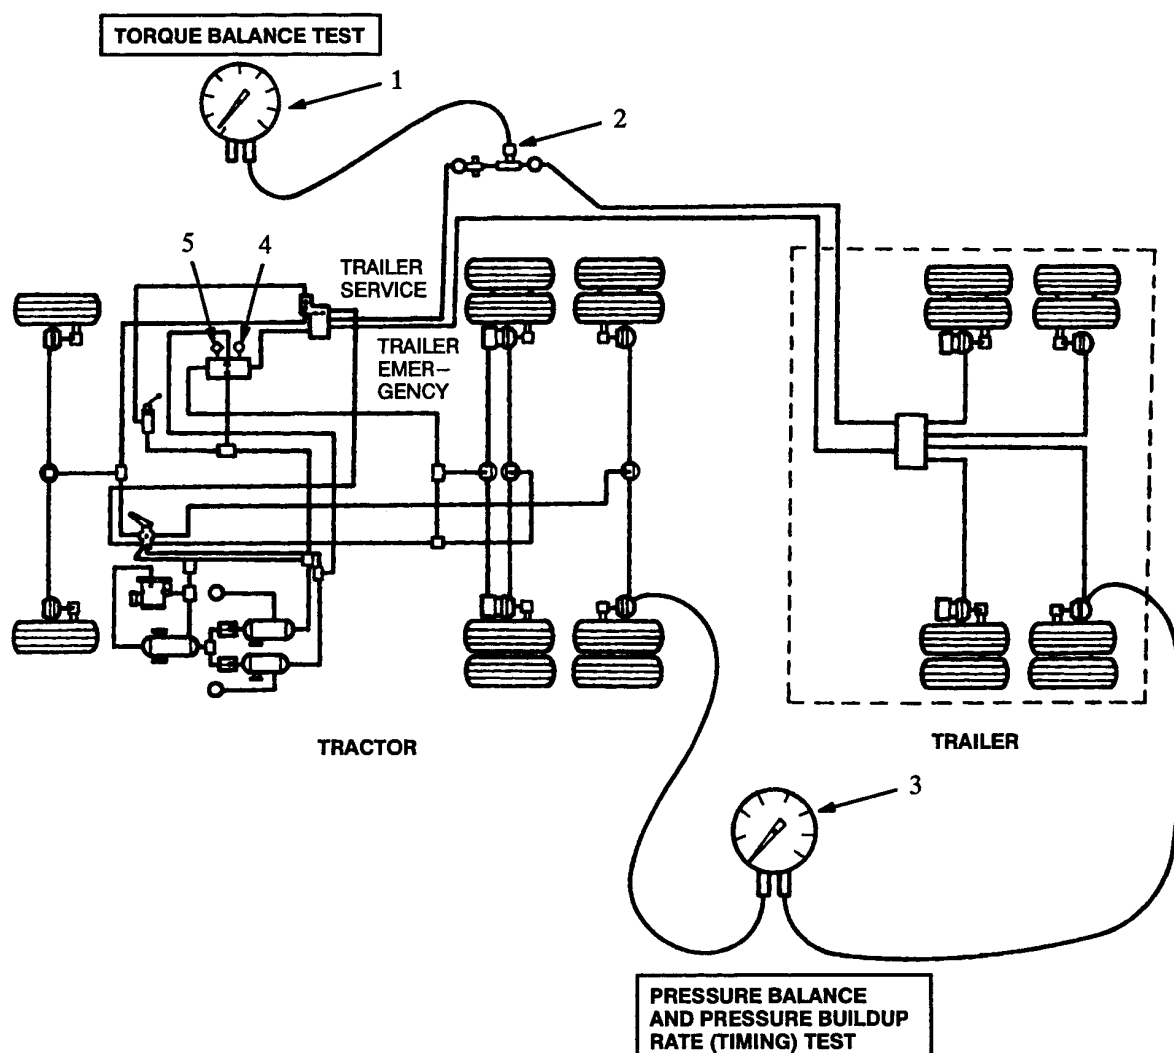

Figure 17 Test Connections-Single Trailer
2. Connect the hoses from the duplex gauge to the combination vehicle as follows (Figure 17):